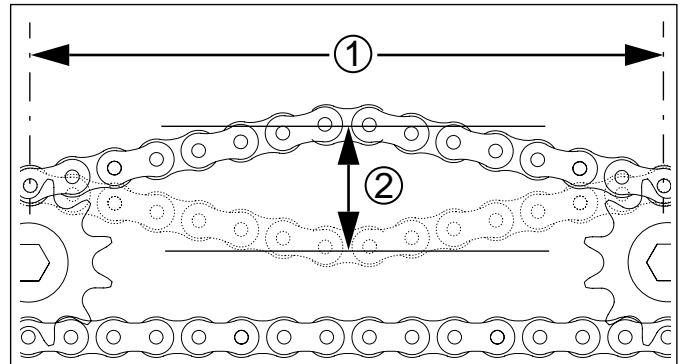

Figure 91
*Refer to Figure 91, which, for clarity, greatly exaggerates slack, and omits the idlers.*
1. Measure the span ① for allowable slack: